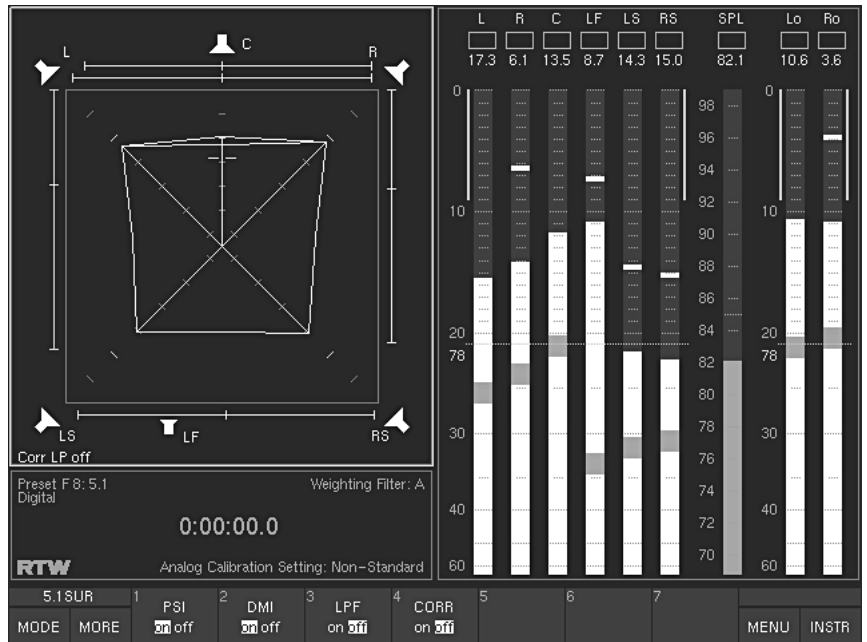

Fig. 5-11: The Surround Sound Analyzer (SSA) instrument in 5.1 surround mode
(Button/key 1, see Fig. 5-11)
(Button/key 2, see Fig. 5-11)
(Button/key 3, see Fig. 5-11)
(Button/key 4, see Fig. 5-11)